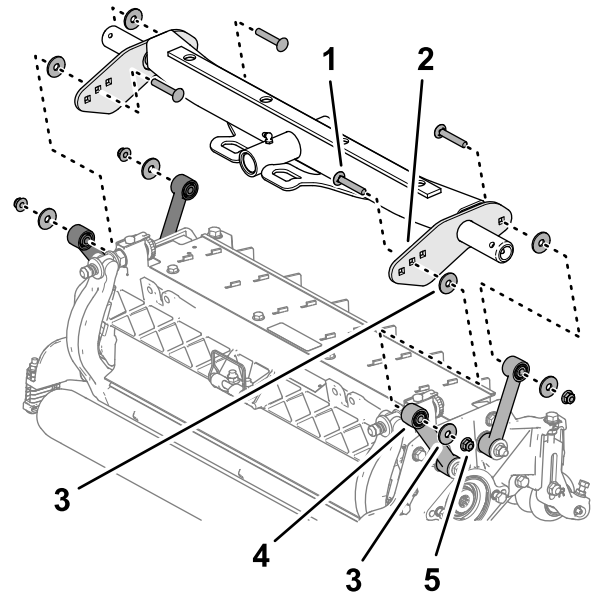

Figure 18
- Align a washer between the carrier plate and link (Figure 18), and loosely assemble the plates and spacer with a carriage bolt (3/8 x 2-1/4 inches), washer, and flange locknut (3/8 inch).